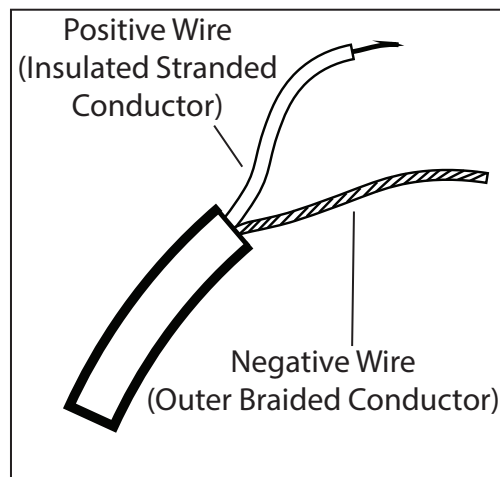

Fig. 4
- c. Make sure that the 'C' ports are facing outwards. Completed step shown in Fig. 4.
5. Twist together the outer braided conductor to form the negative wire of the fixture, then strip 5/8" off the end of the inner stranded conductor to form the positive wire of the fixture (Fig. 4).